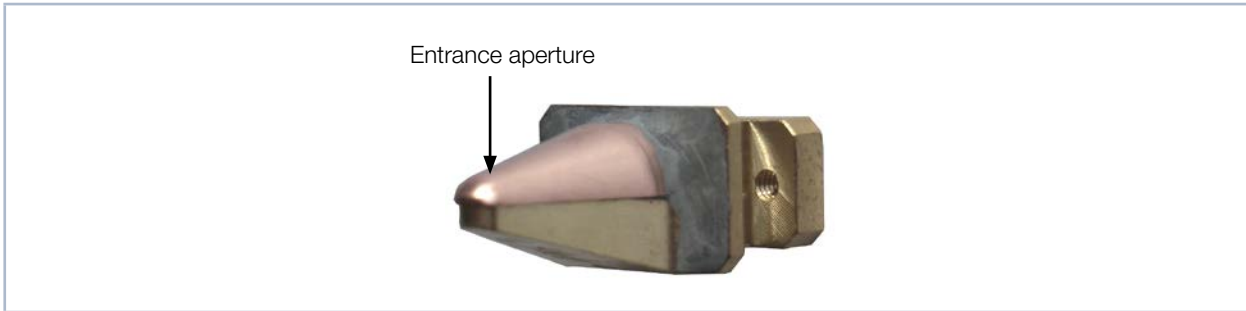

Fig. 5.2: Entrance aperture (pinhole) in the measuring tip
5. Carefully insert the new measuring tip in the disc (caution, the entrance aperture is located on the arched side of the tip, see Fig. 5.2).